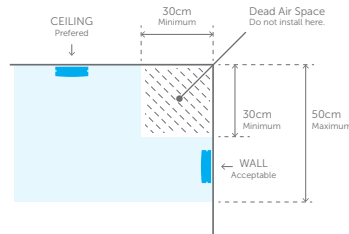

Figure 3
- On ceilings, position alarms at least 300mm away from walls or corners (see Figure 3).
- Position them between 300mm and 500mm from the ceiling (see Figure 3).
Avoid areas where smoke might not reach the alarm. Install more than 500mm away from the peak of an 'A' frame (see Figure 3, 4 & 5).